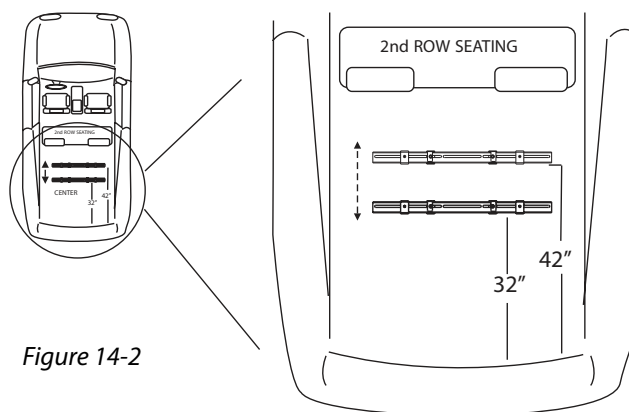

Figure 14-2
2. The AL600 Leg must be mounted between 32" and 42" from the internal surface of the closed back door of the vehicle. [Figure 14-2]